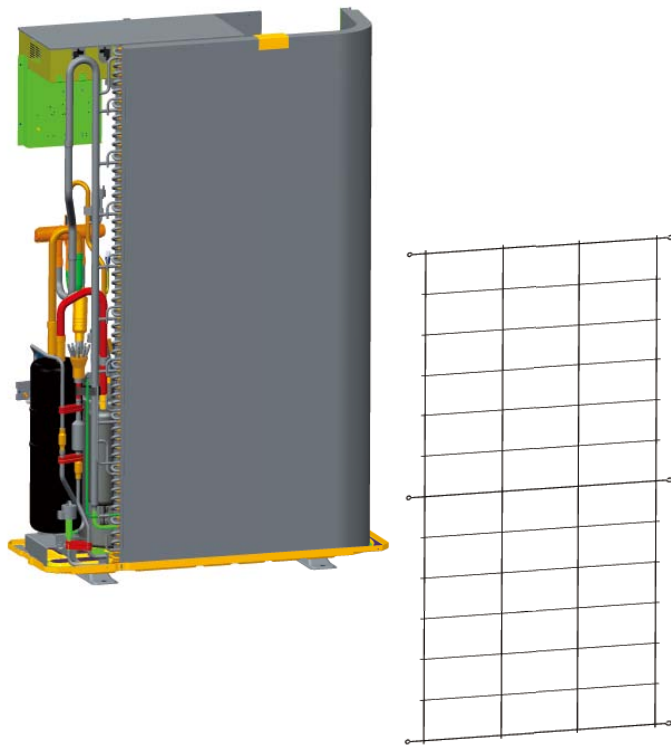

Fig.5
- Loosen the two tapping screws, and remove the Rear Grill.[See Fig.5]